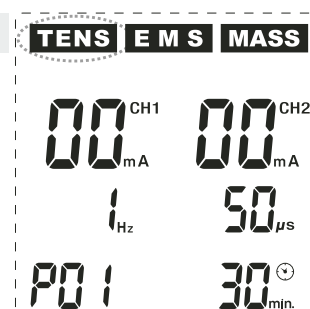

Fig. 5
In order to switch on the device, press the key (⏻). The blue display backlighting switches on and the device is now run in the basic mode. If you switch on the device for the first time, the display information corresponds to **Fig. 5**: The device is now run in the programme 1 (**P01**) of the **TENS** mode (**TENS** flashes). If you have already used the device, the programme used last before the device has been switched off is shown.
Press the key (Ⓣ) (T) in order to select the **TENS mode**. The **TENS mode** is activated and information, as shown in **Fig. 5**, appears on the display: The device is now run in programme 1 (**P01**) of the **TENS** mode (**TENS** flashes at the top on the left of the display). In the **TENS mode**, there are a total of 12 programmes (7 pre-programmed programmes **P01** - **P07** as well as 5 individual programmes **U1** - **U5** whose parameters can be set by the users themselves (see programme tables, page 22). In the **TENS mode**, press the key (Ⓟ) (P/II) repeatedly in order to first call the programmes **P01** - **P07** one after the other and then the programmes **U1** - **U5**. After programme **U5**, the programme order starts from the beginning with **P01**, **P02** etc.